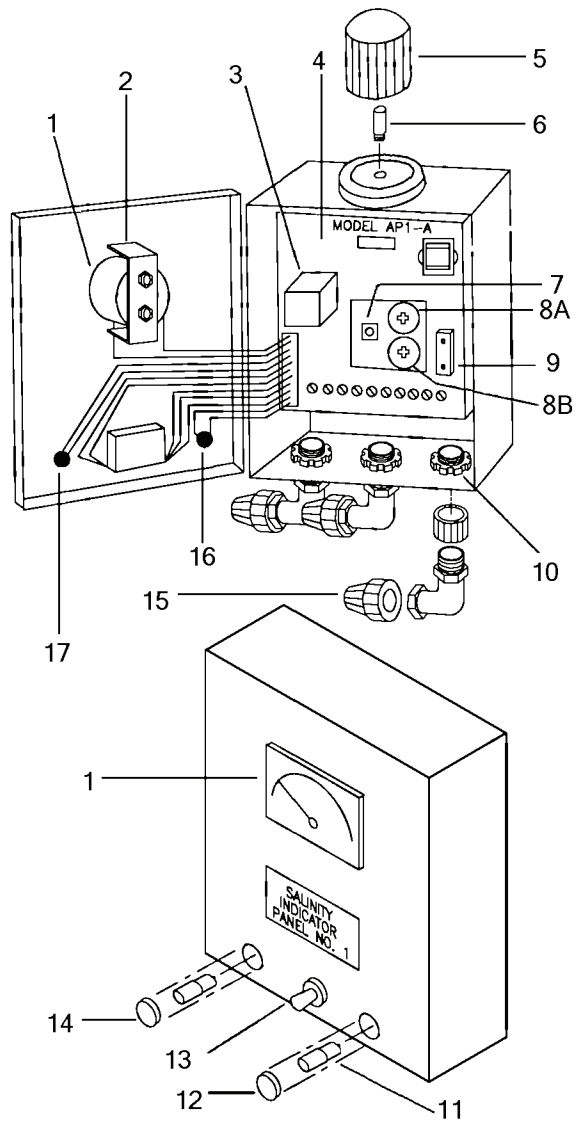

Figure 2-15. Salinity Power Panel.
## 2-22. Salinity Power Panel. (Figure 2-15)
- a. Open door to salinity power panel (Figure 2-15).
- c. Depress and hold the toggle switch (7).